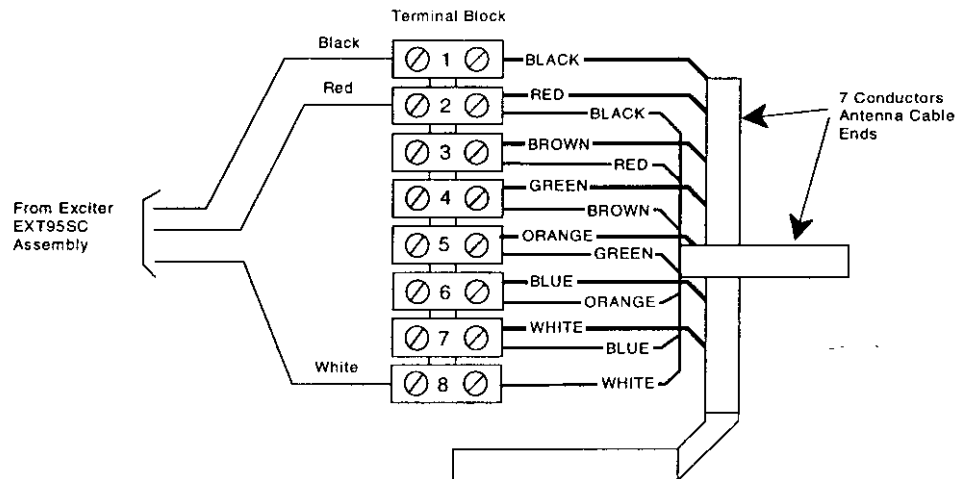

Figure 3-1: LF Antenna Connections
3. Using a screwdriver, connect the antenna cable conductors in the terminal block as shown in Figure 3-1 below.